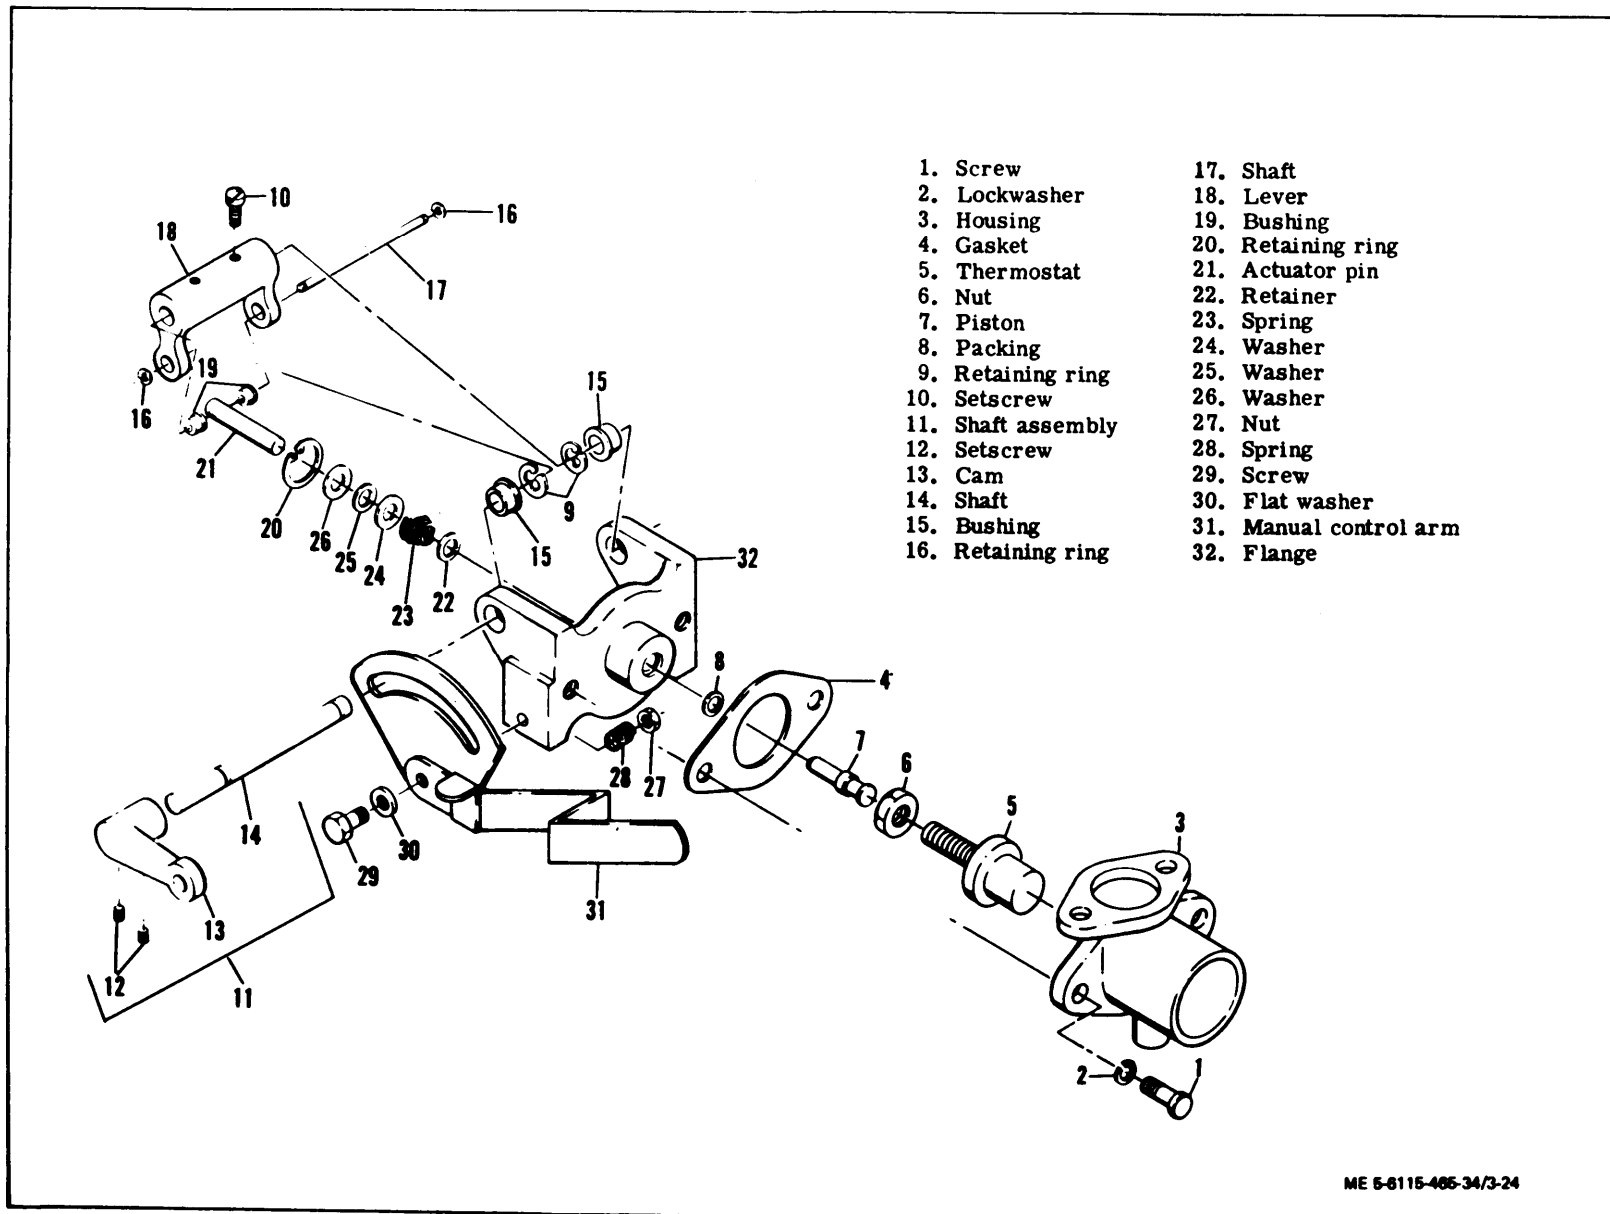

Figure 3-24. Shutter Control Assembly, Exploded View
(1) Remove screws (1, figure 3-24) and lockwashers (2) to remove housing (3), gasket (4), thermostat (5), nut (6) and piston (7). Discard gasket.
(2) Remove and discard packing (8).
(3) Remove retaining rings (9) and loosen setscrews (10) to remove shaft assembly (11). Do not disassemble setscrews (12), cam (19) and shaft (14) unless inspection reveals damage.
(4) Remove bushings (15).
(5) Remove retaining rings (16) to remove shaft (17), lever (18) and bushings (19).
(6) Remove retaining ring (20) to remove actuator pin (21) with assembled parts.
(7) Remove retainer, spring (29) and washers (24, 25, and 26) from actuator pin.
(8) Remove nut (27), spring (28), screw (29), and flat washer (30) to remove manual control arm (31) from flange (32).